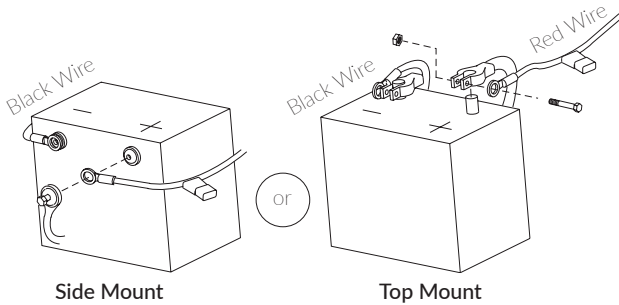

Figure 4-7
8. Attach the black wire first to the negative terminal and red wire last to the positive terminal on the battery. *See Figure 4-7.*